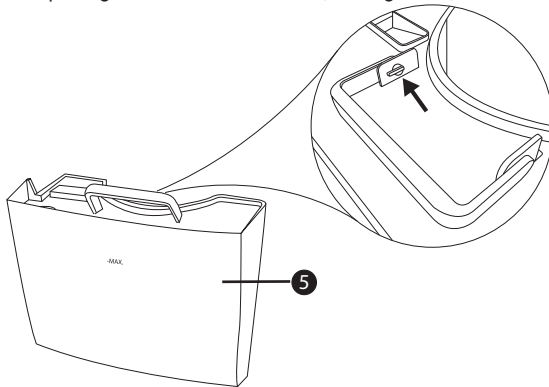

Fig. 3
- ◆ In order to clean the inside of the water tank 5, you must remove the black lid. To do this, release the carrying handle from the retainer while pressing it out sideways. When doing so, ensure that the handle plug coincides with the opening in the water container (See Figure 3.)